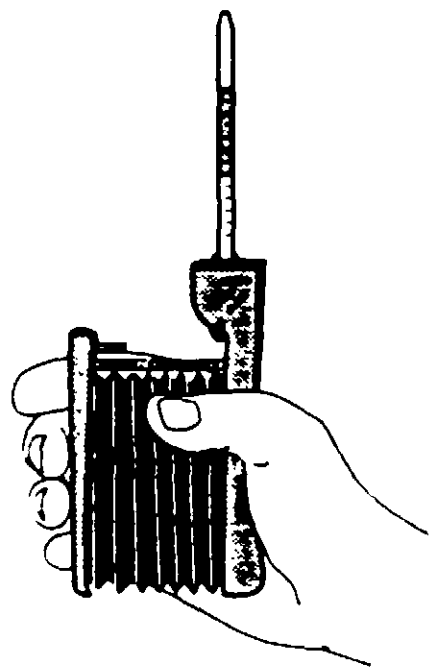

Figure 15-3
12. Compress the bellows completely. Release the bellows to allow a constant sample volume to automatically flow through the Dräger tube (see Figures 15-3, 15-4, and 15-5).